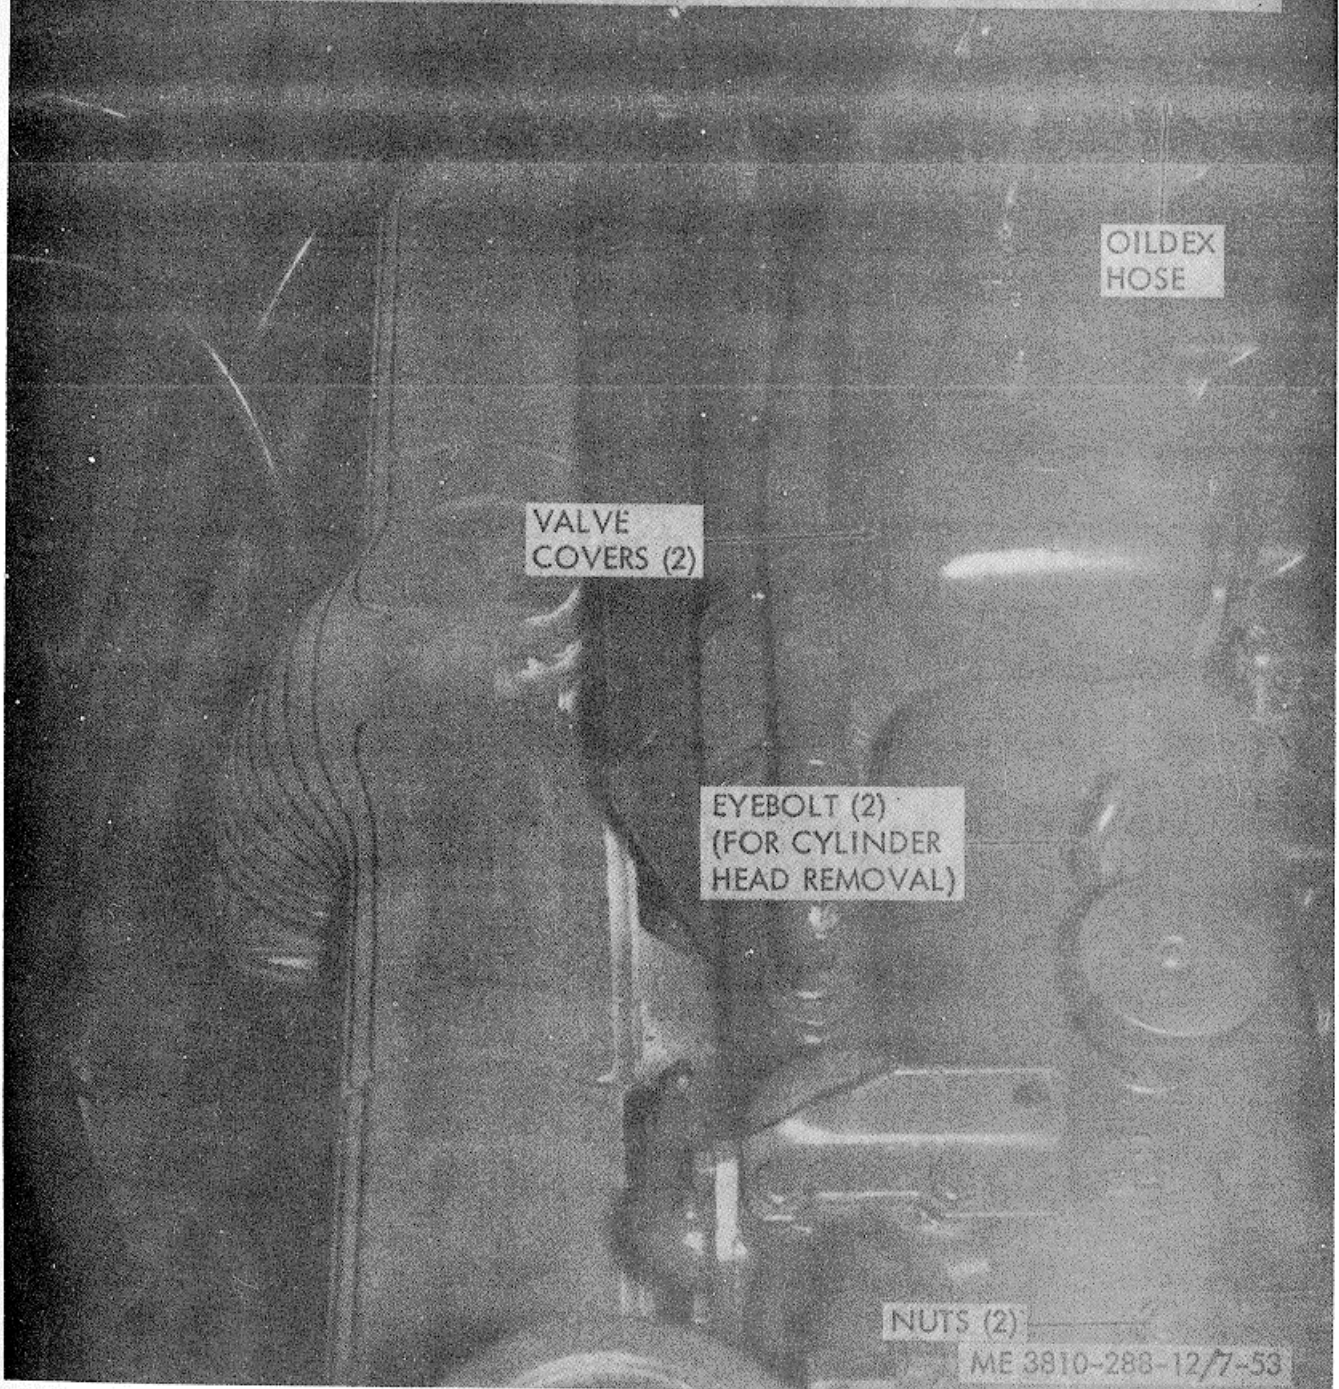

Figure 7-53. Valve tappet cover, removal and replacement
(1) Remove the spark plugs from the engine so that it can be turned to the required crankshaft positions.
(2) Refer to figure 7-53 and remove the valve tappet cover. Note that the eye bolts shown are for removing cylinder heads only. The eye bolt shown in figure 7-21, Part 2 is one of the eye bolts used in lifting the engine from the machine.
(3) Insert a suitable ratchet extension into the socket in the front of the vibration damper and turn the engine over until the mark on the engine flywheel indicates that number one piston is on top dead center on the compression stroke.
(5) Turn the engine over 120 crankshaft degrees (60 camshaft degrees) using the ratchet. This will bring piston number five to top dead center on compression stroke. Repeat for each cylinder, in firing order sequence, which is 1-5-3-6-2-4.
(6) Refer to figure 7-53 and replace the valve tappet cover.